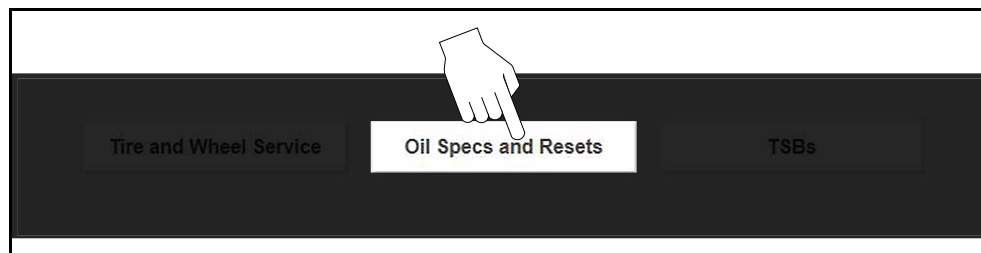

Figure 10-1
- **From the Home screen** - select the **Quick Lookups** icon, then select the **Oil Specs and Resets** menu option (Figure 10-1), then proceed to Step 1.